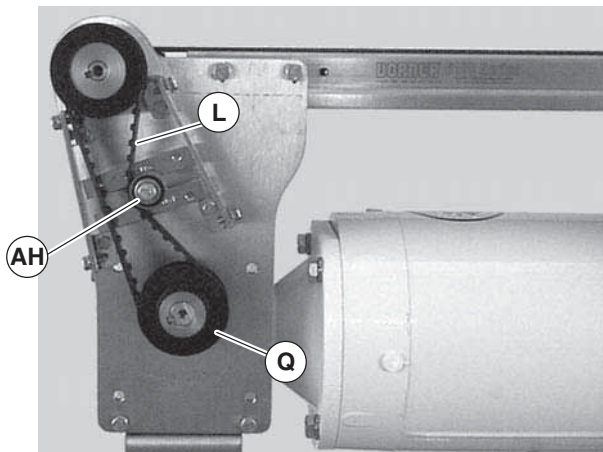

Figure 37
2. Loosen tensioner (Figure 37, item AH).